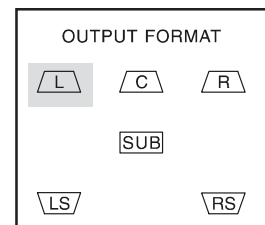

Figure 12
*Note: The front panel Output Format LED's will light to indicate which loudspeaker is receiving the test signal. Refer to Figure 12.*